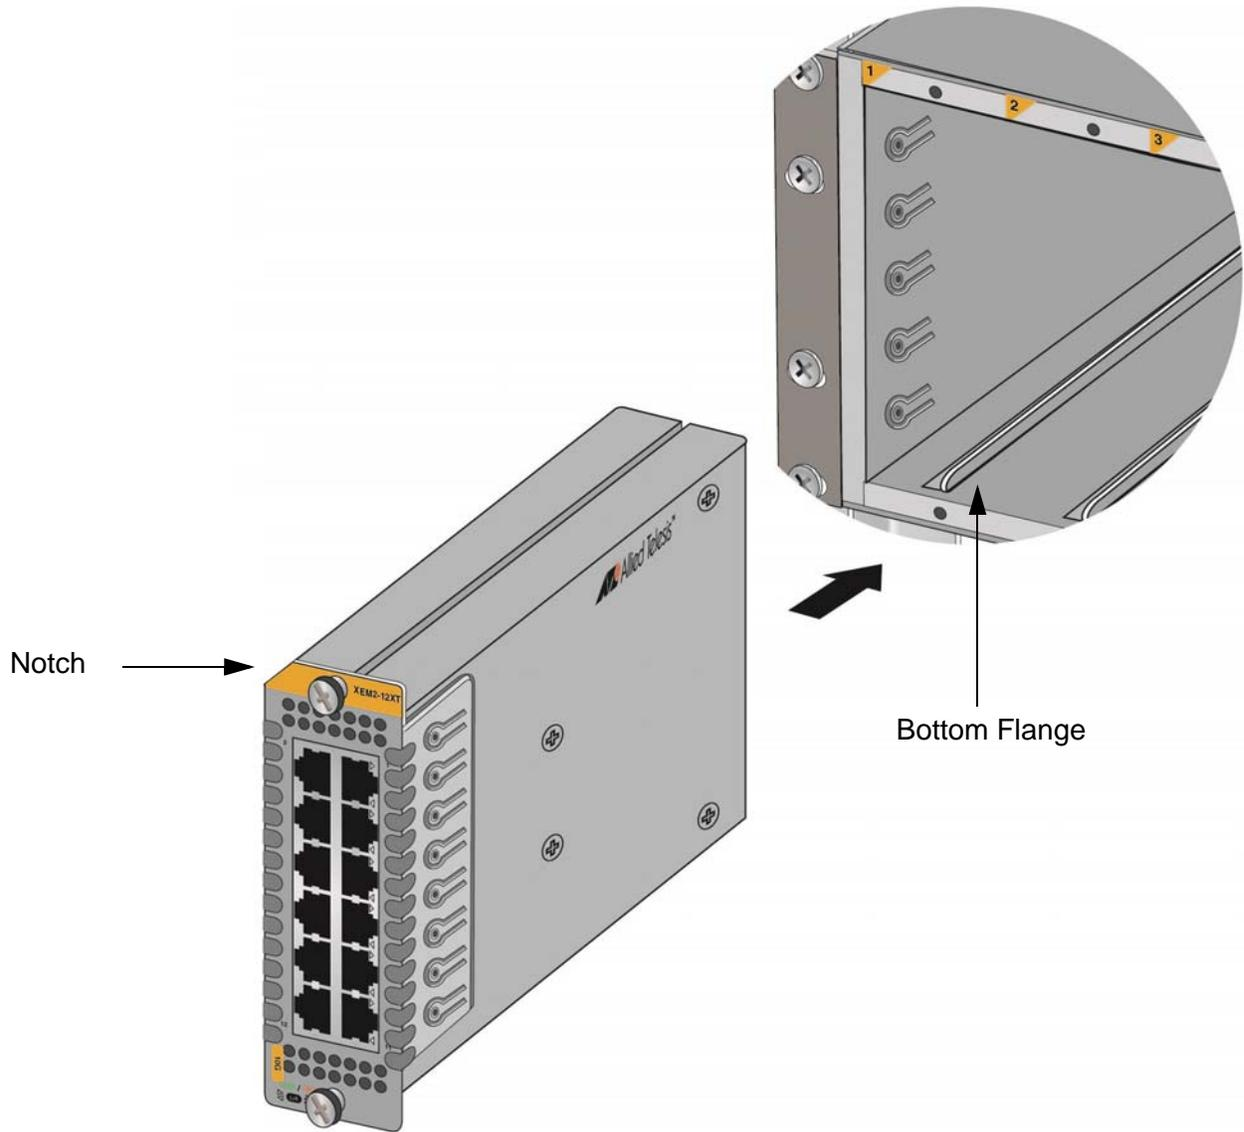

Figure 58. Sliding the Ethernet Line Card into the Slot
4. Position the line card with the notch on the faceplate in the upper left corner, as shown in Figure 58 on page 111, and carefully slide it into the slot. The slot in the chassis has top and bottom flanges that fit into grooves on the top and bottom of the card.